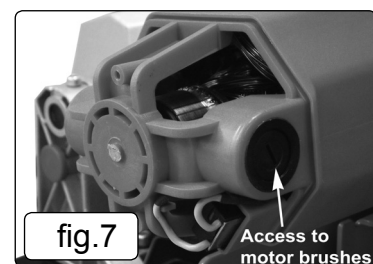

fig.7
- 6.5.1. The motor brushes should be checked periodically for wear and renewed when worn down or pitted. The brushes can be accessed either side of the motor casing as seen in fig.7.